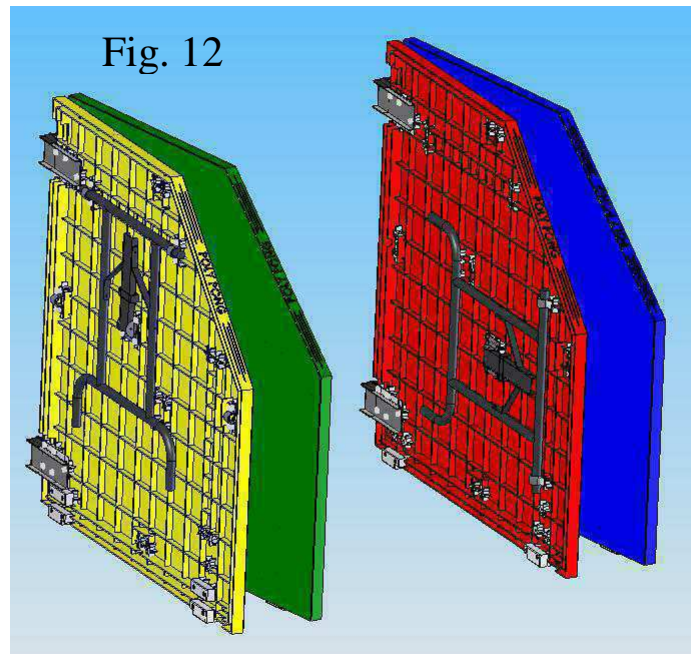

Fig. 12
13. Carefully lift the YELLOW-GREEN table tops by the two joining short sides to the vertical position. This will allow you to fold the two quarter tables with their top sides together. Leave them spread at a slight angle so that they won't fall. Repeat for the BLUE-RED table tops. Fig. 12.